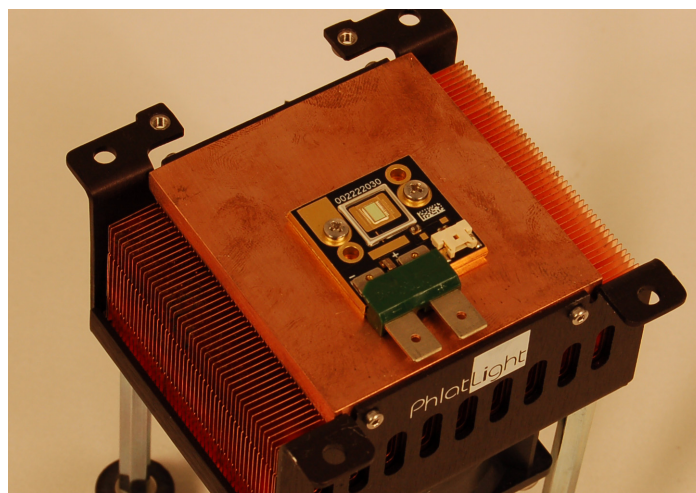

Figure 13: Device mounted on heat sink and is now ready for electrical connections
4. Insert screws in the holes of the core board. Tighten the screws with a screw driver in a pattern such that each screw is tightened alternatively and there is equal pressure by all the screws on the core board. Tighten those making sure that there are no gaps between the core board and heat sink (Figure 13). To ensure this, we recommend using a torque wrench to tighten the screws with torque settings of 40 Oz-Inches (0.2825 Newton-meter in metric units.)